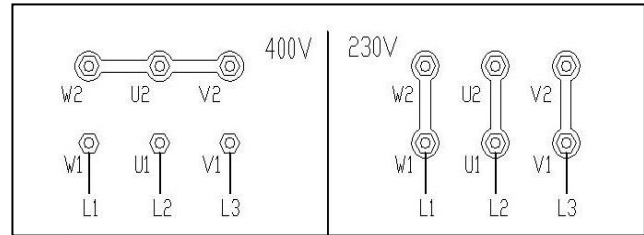

Fig. 17
- If the lift is operated at 230V three-phase, change the connection on the transformer and motor. (**Fig. 17**)